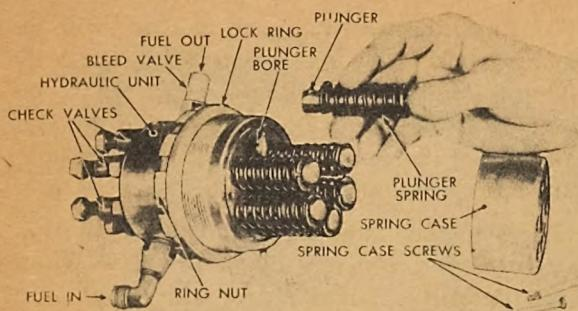

Fig. 270. Removing Plunger
(4) Access to the rotor, plungers and plunger springs is obtained by removing the spring case which is assembled on the unit with two round-head screws. (See Figures 270 and 271.) The plungers in the hydraulic unit are NOT INTERCHANGEABLE. They are numbered in a clockwise direction, starting with the plungers at the locating pin. Neither the plungers, rotary valve or bores should be touched with emery, crocus cloth or any abrasive or polishing compound. They may, however, be washed in clean fuel oil. The polished or highly finished parts should not be clicked, scraped or rattled together and should not be laid on anything but a clean paper or clean cloth.